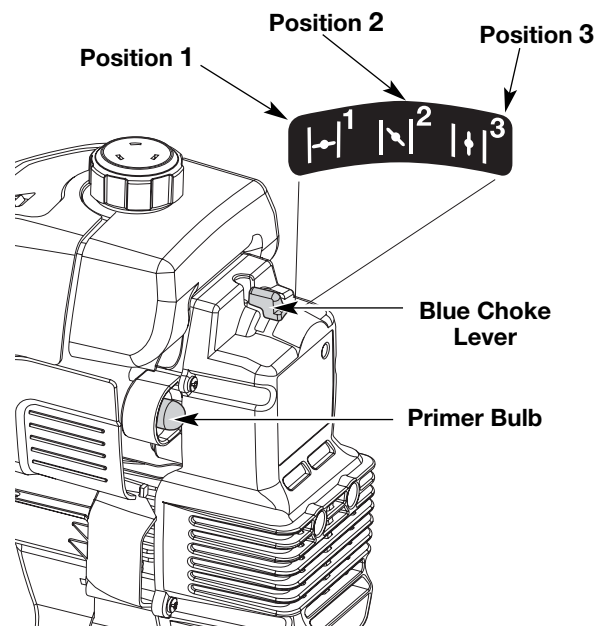

Fig. 7
3. Fully press and release the primer bulb 10 times, slowly. Some amount of fuel should be visible in the primer bulb and fuel lines (Fig. 7). If you can't see fuel in the bulb, press and release the bulb as many times as it takes before you can see fuel in it.
4. Place the blue choke lever in **Position 1** (Fig. 7).
9. Once the engine is warmed up, place the blue choke lever in **Position 3** (Fig. 7). The unit is ready for use.
IF... The engine hesitates, return choke lever to **Position 2** (Fig. 7) and continue warm up.